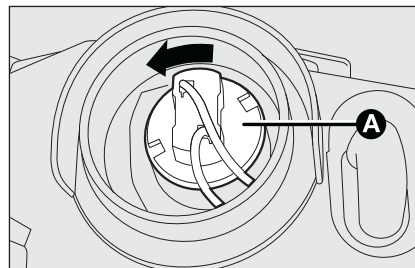

fig. 22
- turn the bulb holder clockwise **A**-fig. 22 and withdraw it;